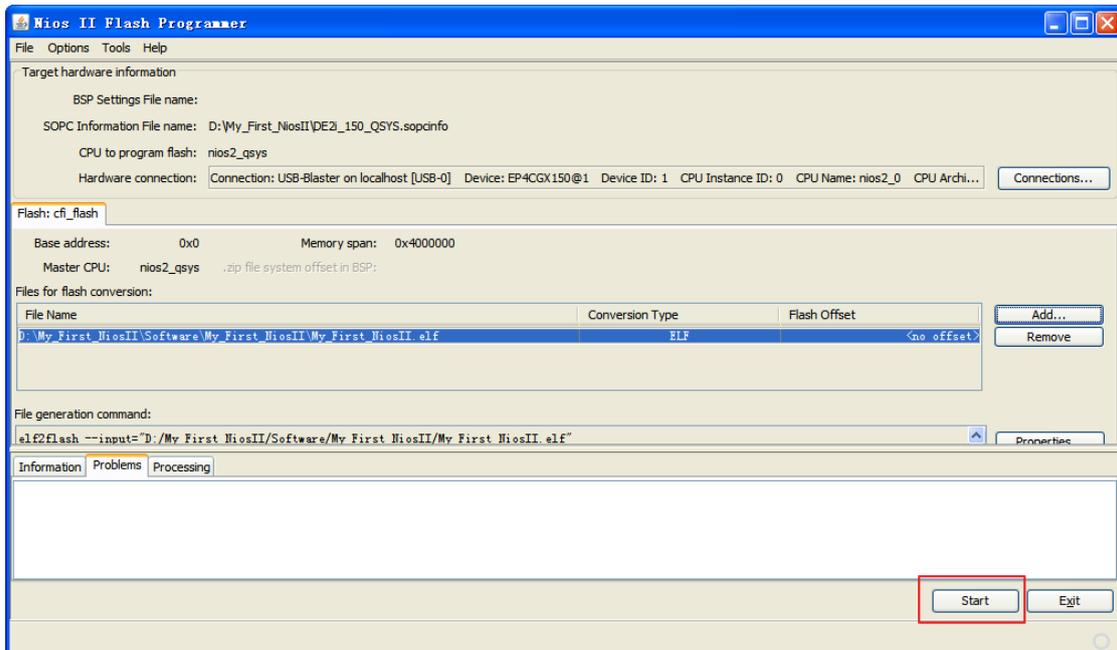

Figure 3-29 Start Program Flash
6. Add My_First_NiosII.elf to Flash Conversion and click Start to Program Flash as shown in Figure 3-29.